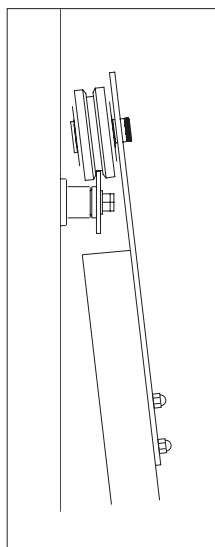

Figure 6
10. Hang the door. (Figure 6).